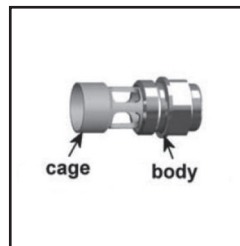

Fig. 19
6. **DO NOT REMOVE PLASTIC CAGE FROM AIR VALVE BODY AS THIS MAY DAMAGE THE CAGE.** (See fig 19)